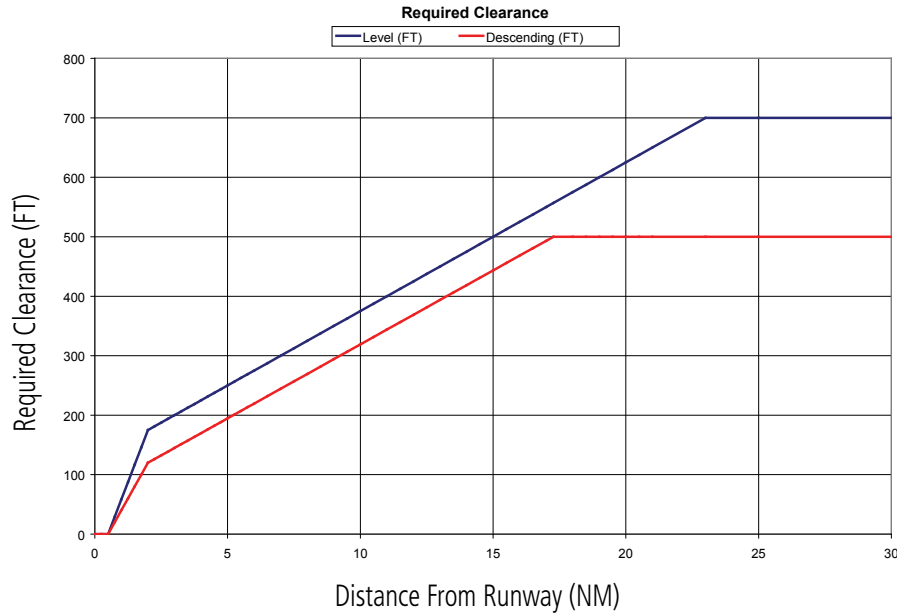

Figure 6-154 FLTA Alert Minimum Terrain and Obstacle Clearance Values
**Reduced Required Terrain Clearance (RTC)** and **Reduced Required Obstacle Clearance (ROC)** alerts are issued when the aircraft flight path is above terrain, yet is projected to come within the minimum clearance values in Figure 6-154. When an RTC alert is issued, a potential impact point is displayed on the TAWS-B Page.
**Imminent Terrain Impact (ITI)** and **Imminent Obstacle Impact (IOI)** alerts are issued when the aircraft is below the elevation of a terrain or obstacle cell in the aircraft's projected path. ITI and IOI alerts are accompanied by a potential impact point displayed on the TAWS-B Page. The alert is annunciated when the projected vertical flight path is calculated to come within minimum clearance altitudes in Figure 6-154.